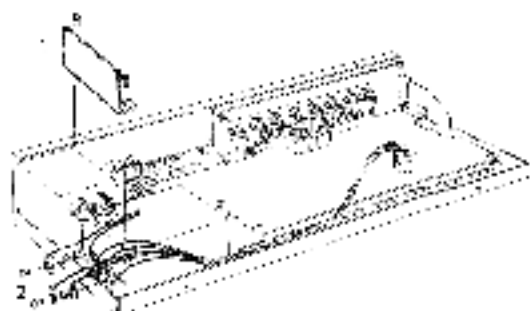

Figure 2-57
1. Remove the plastic shield that protects the connectors by removing the two screws that hold it on (Figure 2-57, step 1).
2. Disconnect the six cables from the cable connector strip (Figure 2-57, step 3). Note that the cables are color coded as shown in Table 2-1.